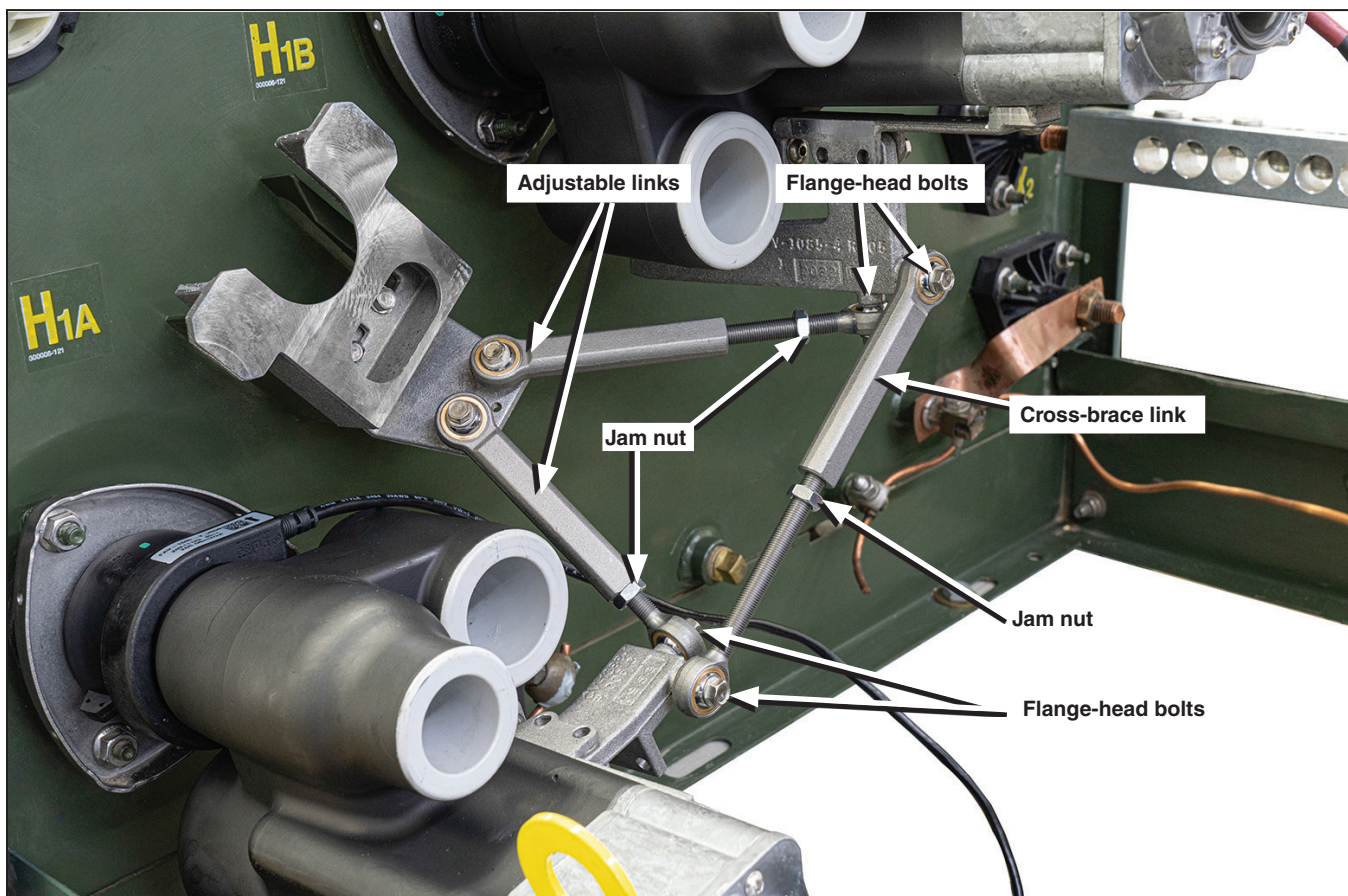

Figure 27. Loosen all bolts and jam nuts.
- STEP 1.** Loosen the three jam nuts using the $\frac{9}{16}$ -inch combination wrench as shown in Figure 27.
- STEP 2.** Loosen and remove the four $\frac{1}{4}$ -20 $\times$ $\frac{5}{8}$ -inch flange-head bolts shown in Figure 27. To avoid losing the flange-head bolts, they can be rethreaded into the bosses.